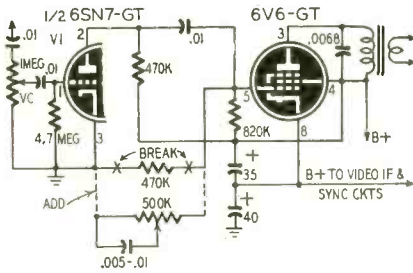

Fig. 1—A top-cutting tone control.
A. Fig. 1 shows a simple high-cut type of tone control. The 470,000-ohm grid resistor in the 6V6-GT circuit is replaced with a 500,000-ohm tone-control potentiometer with a .005-.01- μ f